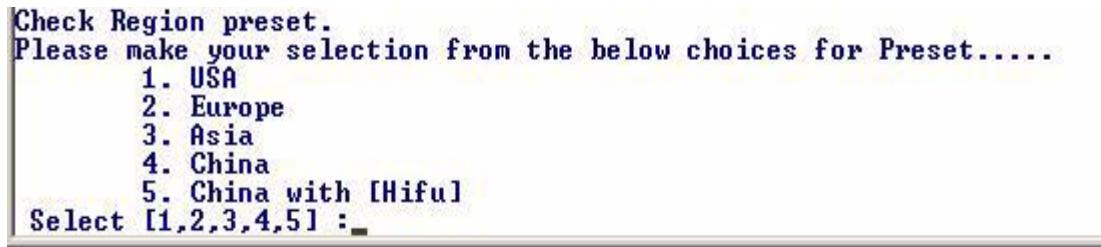

Figure 8-235 Region selection
- 7.) To apply the preset by region, select one of the below options. Refer to Figure 8-235.